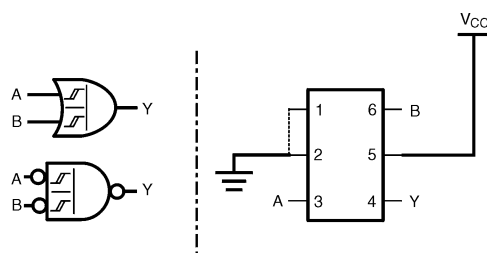

Figure 12. 2-Input OR Gate
| 2-Input NAND with Both Inputs Inverted | NC7SZ58          | Figure 12                |
| 2-Input OR                             | NC7SZ58          | Figure 12                |
4. CPD is defined as the value of the internal equivalent capacitance which is derived from dynamic operating current consumption (ICCD) at no output loading and operating at 50% duty cycle. (See Figure 12) CPD is related to ICCD dynamic operating current by the expression: